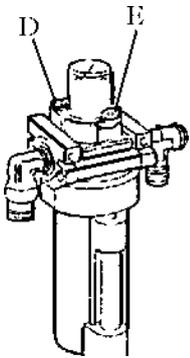

Fig 25
every time, drop down a drip of oil, and otherwise adjust the screw (D) that controlled oil enters with minus screwdriver. (Fig 25)